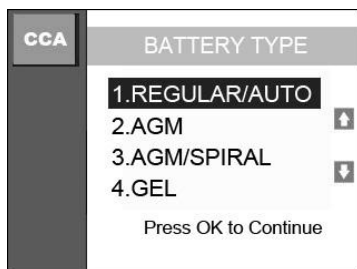

Figure 9.3
- Press **OK** button to start test. The tool will display a list of battery types for selection. (Figure 9.3) Select the right type of battery and press **OK** button to continue.